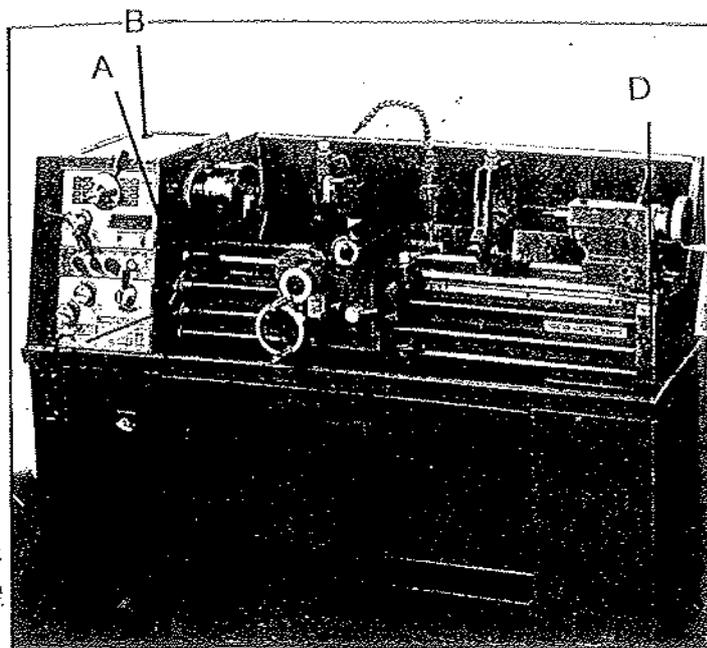
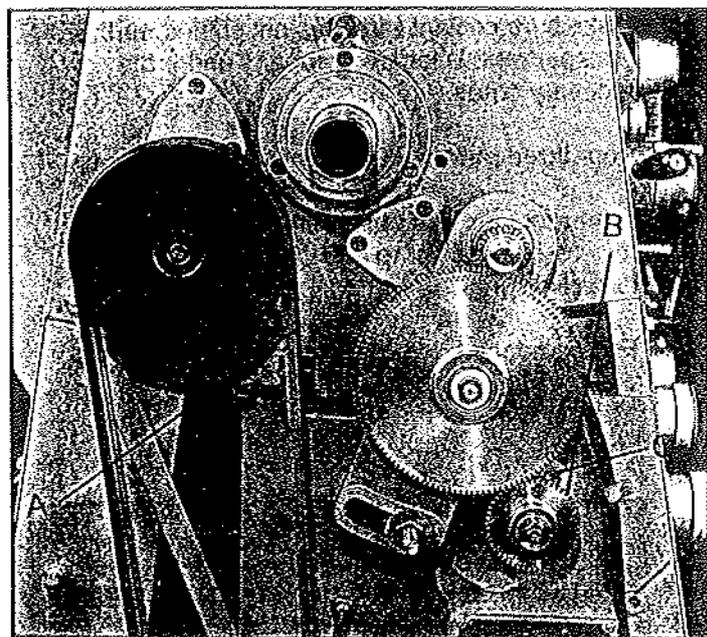

Fig. 3
Fig. 4
1. **Headstock** - Oil must be up to indicator mark in oil sight glass (A, Fig. 3). Top off with Shell Turbo T-68 or equivalent. Fill by pulling plug (B, Fig. 3). To drain, remove drain plug (A, Fig. 4) with an 8mm hex wrench. Drain oil completely and refill after the first three months of operation. Then, change oil in the headstock annually.
2. **Gearbox Input Shaft** - Remove end gear cover and oil the gearbox input shaft where it exits the headstock bracket (B, Fig. 4) with the oil can using 20W machine oil. Oil once daily.
3. **Gearbox** - Oil must be up to indicator mark in oil sight glass (C, Fig. 3). Top off with Shell Turbo T-68 or equivalent. Fill by removing plug (C, Fig. 4) with an 8mm hex wrench. To drain, remove drain plug (D, Fig. 4) with an 8mm hex wrench. Drain oil completely and refill after the first three months of operation. Then, change oil in the gearbox annually.